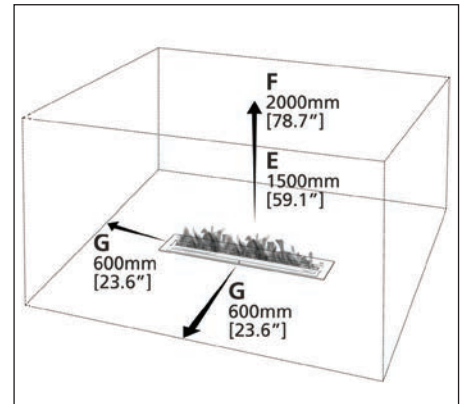

Fig. 4
B. POSICION DEL QUEMADO "SIN INTEGRAR EN UNA CHIMENEA O PARRILLA" (Fig. 4)